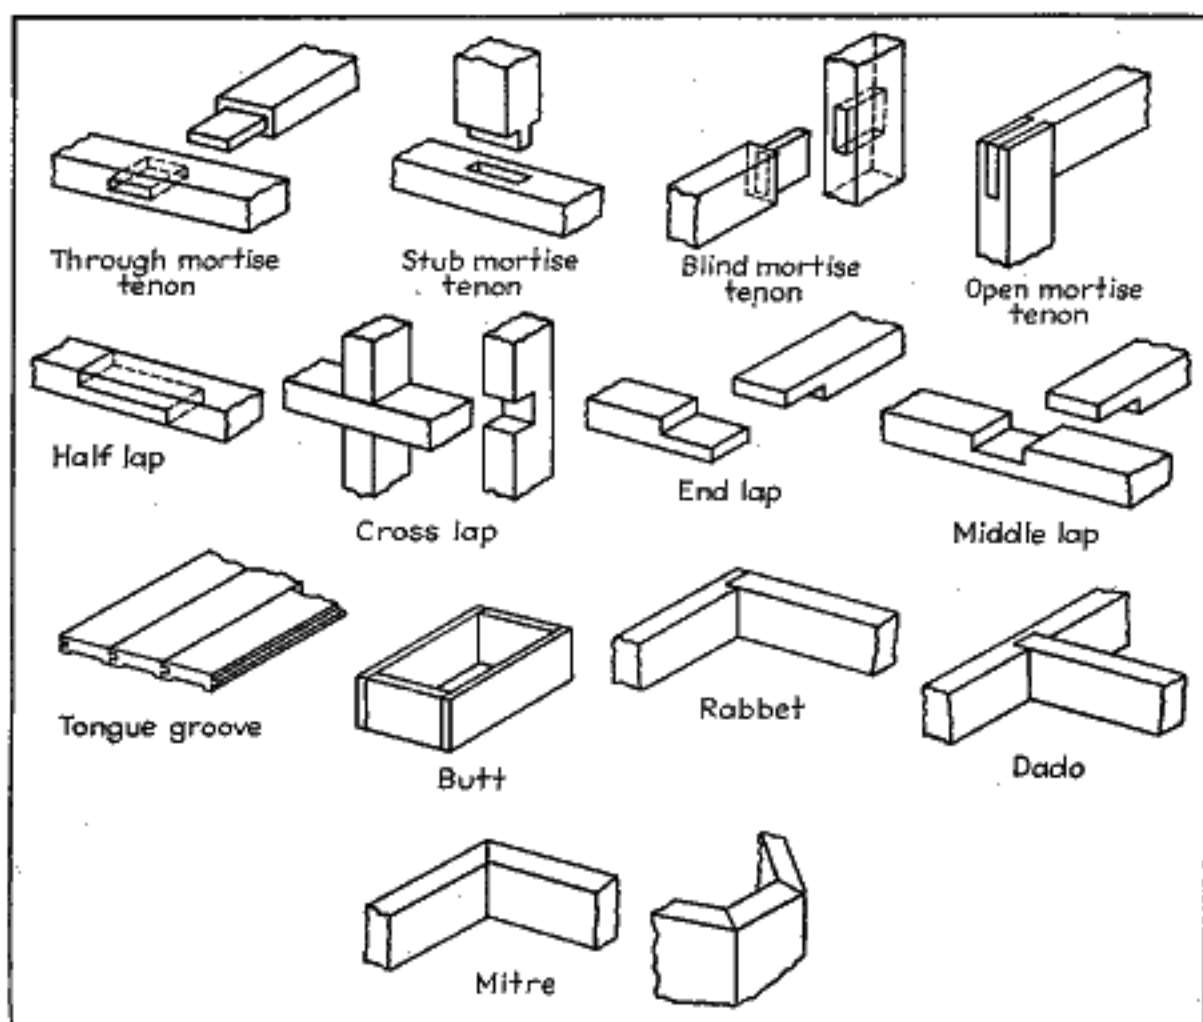

FIG. 54.—Common wood joints.
54. Mortise-and-tenon Joints.—A mortise is a hole cut into or through one piece, and into which, or through which, another piece fits. A tenon is an end of a piece specially shaped (usually with a shoulder) to fit into a mortise. Figure 54 illustrates several mortise-and-tenon joints as well as other joints commonly used in fastening pieces of wood together.